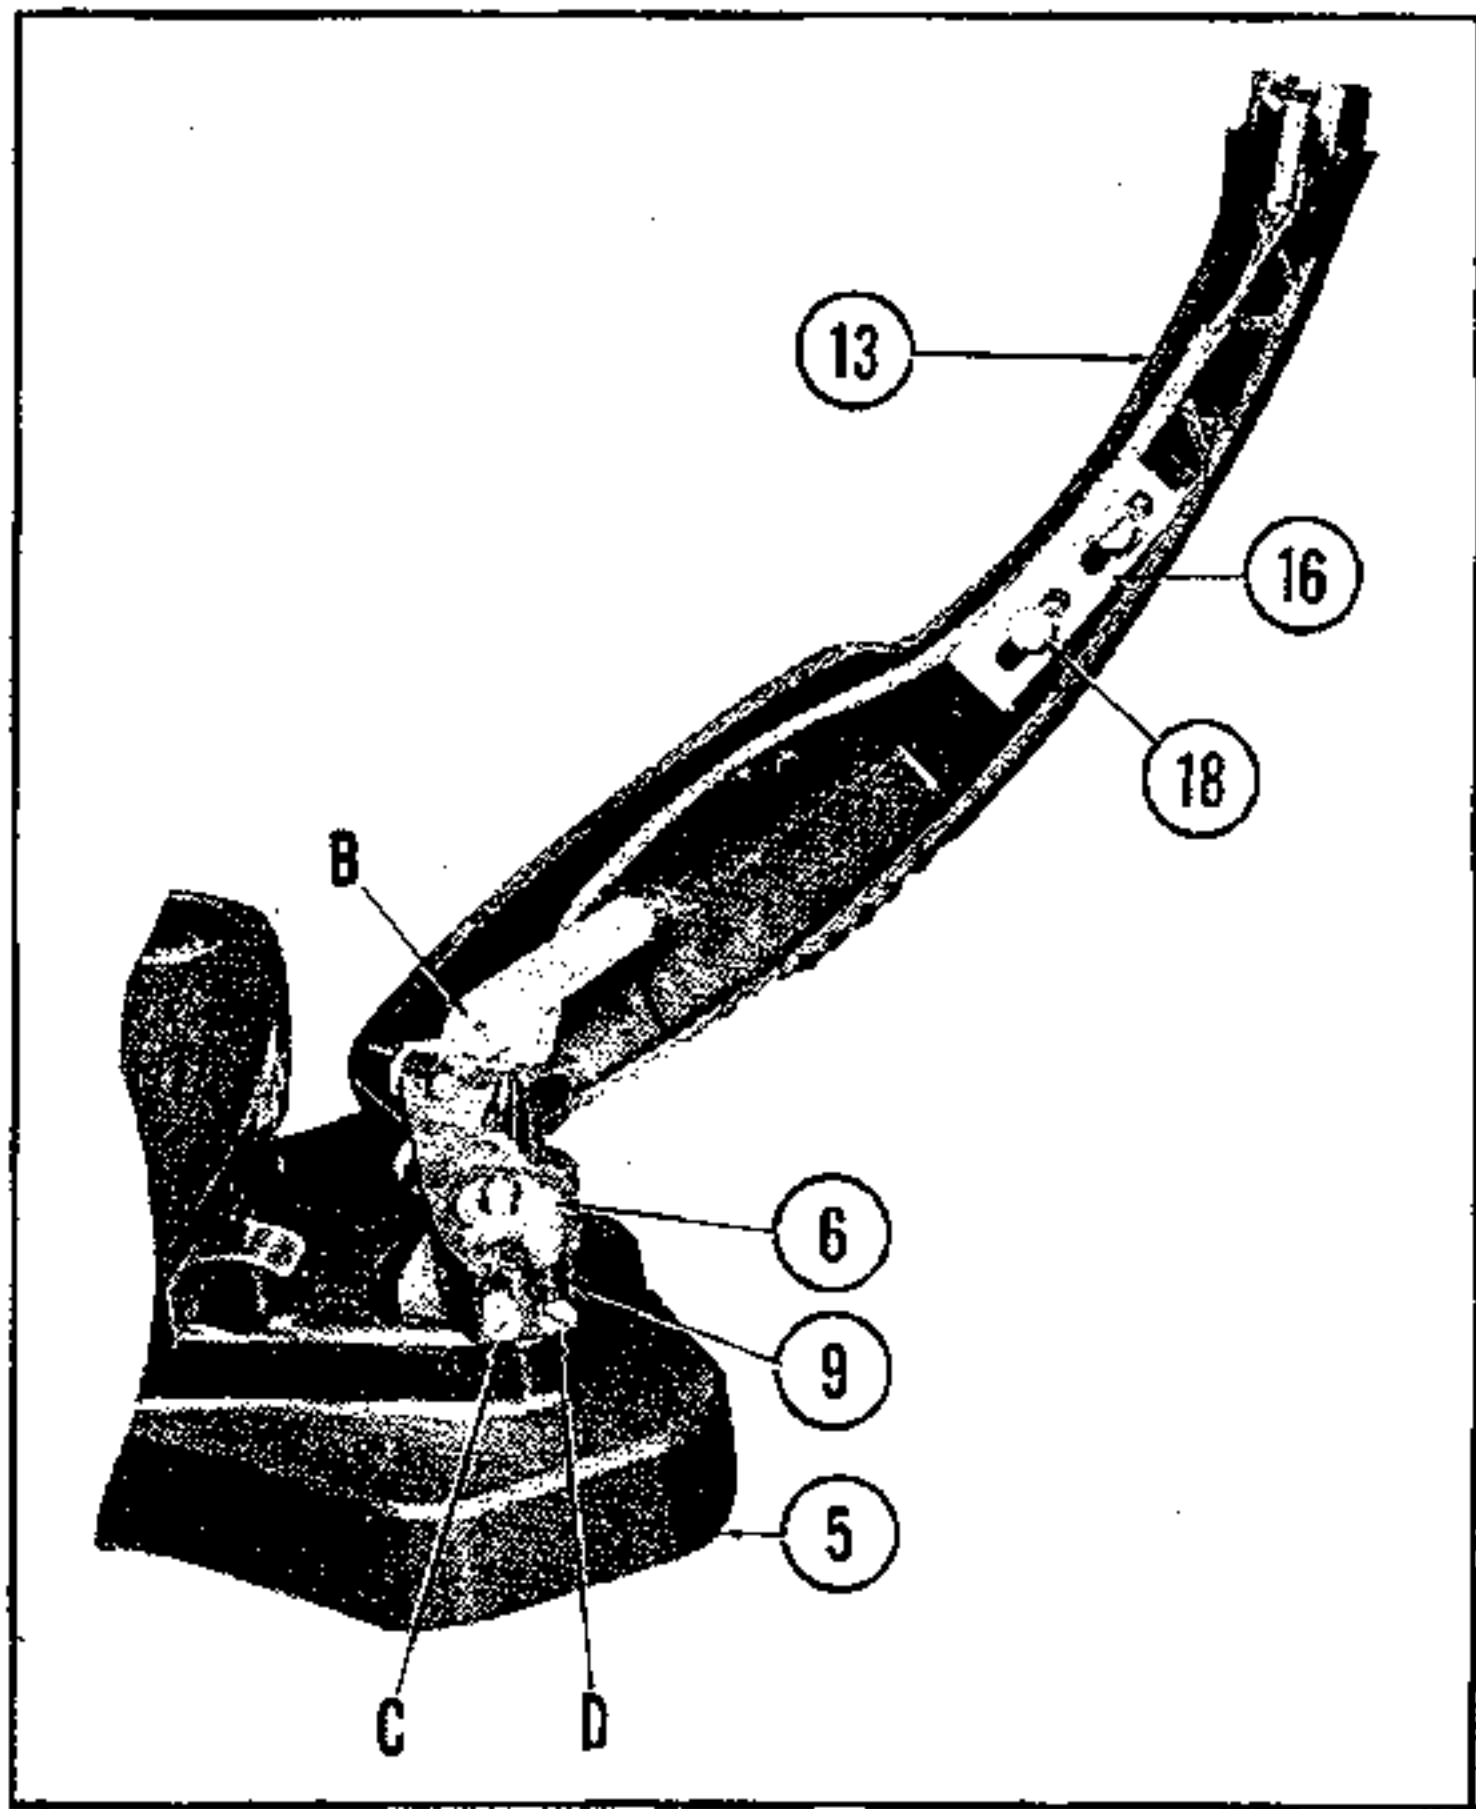

FIGURE 5
If set down positions are erratic, check first of all that the nut shown at point B (Figure 5) is securely tightened.
The position at which the stylus alights on the record may be adjusted, if necessary, by means of the two screws C and D (Figure 5). To bring position in, loosen screw C and tighten screw D the same amount.
(Refer to Figure 5) loosen screws (18) and move weight compensating control (16) back or forward to obtain the desired pressure.